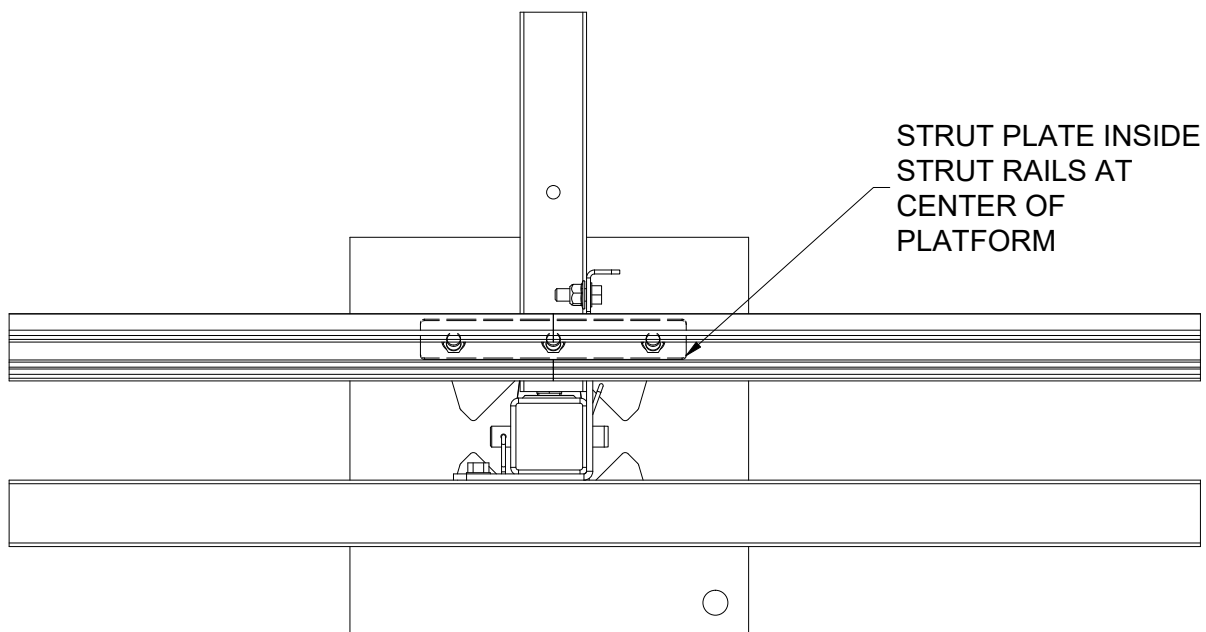

Figure 17: Strut Rail Assembly at Center of Platform
3. Take another Strut Rail and insert one end into the loosely connected Splice Plate at the center Strong Back. Push the two rails together so they are flush. See Figure17 below.